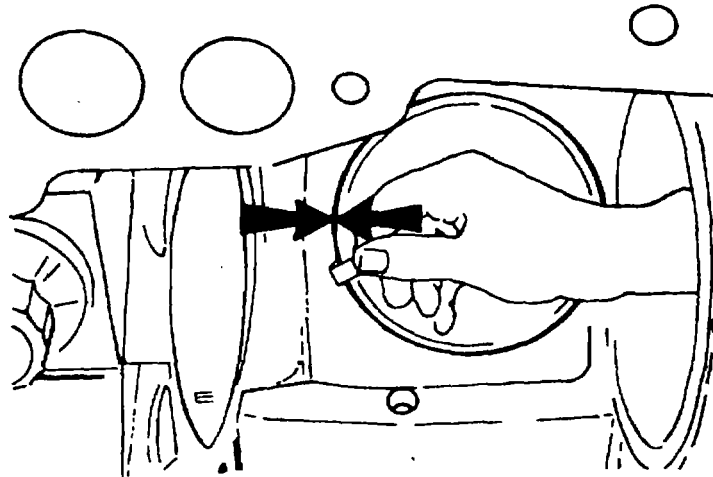

Figure 9-36. Checking Cylinder Liner To Lower Bore Clearance
- (1) Refer to step (11), below, and install the cylinder liner (27, Figure 9-24) in the cylinder block(58) without the crevice seal or packings, and check the liner-to-block clearance in the lower bore with a feeler gage (see Figure 9-36). It is desirable that the clearance be in accordance with Table 1-4. It is permissible, however, for a new liner to contact with the bore provided that the liner is not warped out-of-round because of heavy contact. If contact is noted, check the liner for out-of-round with a dial bore gage. If the liner is out-of-round over 0.002 inch (0.05 mm) in the packing area, repair the lower bore in accordance with paragraph 9-31.